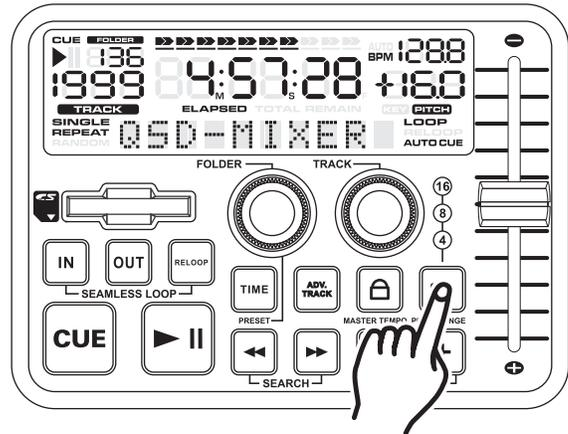

Figure 27
Using the Pitch Slider Percentage Selector (28): You may choose a pitch operating range at any time. To change the operating range be sure the pitch function is turned on, see figure 27. The pitch percentage can be changed between +/-4%, +/-8%, or +/-16%. 4% will allow the least amount of pitch manipulation and 16% will allow the most amount of pitch manipulation. To adjust the different values, hold the % **BUTTON (28)** until your desired value is reached.